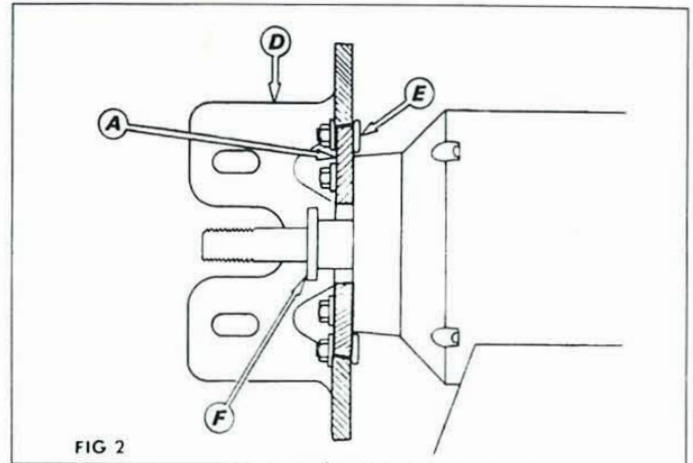

FIG 2
Fit idler arm **H** using $\frac{5}{16}$ " diameter bolts **J** and washers provided. Fit one of the heavy dished wheel flanges **G** provided in the kit, that suit either $\frac{1}{2}$ " diameter or $\frac{5}{8}$ " diameter shaft size and check that it clears heads of bolts **B**. If it fouls, use either $\frac{1}{2}$ " or $\frac{5}{8}$ " diameter washer **F** Fig 2 (provided in kit) behind flange. Pulley is fitted with precision nylon bush to suit $\frac{5}{16}$ " (15.9) shaft. Fit additional bush to suit $\frac{1}{2}$ " (12.7) shaft. For $\frac{3}{4}$ " (19) shaft, remove bushes with care. A bush is provided to suit 14mm shaft.